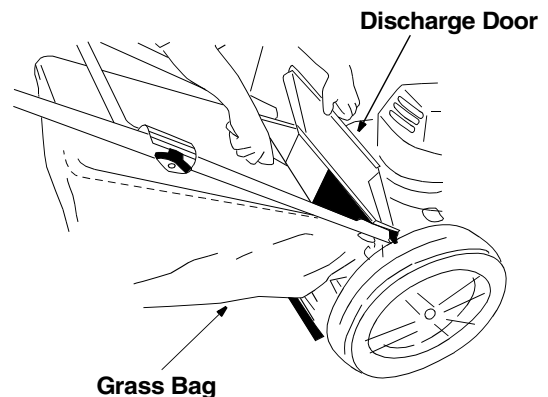

Figure 7
- To remove the mulching baffle, lift the rear discharge door on the mower. Remove the mulching baffle. See Figure 7.
- Place the hooks, found on both sides of the grass catcher frame, over the chute door pivot rod at the rear of the mower. See Figure 7. Release the rear discharge door.
- **To remove the grass catcher,** lift the rear discharge door on the mower. Lift the grass catcher up and off the pivot rod. reinstall the mulching baffle and release the rear discharge door. See Figure 7.